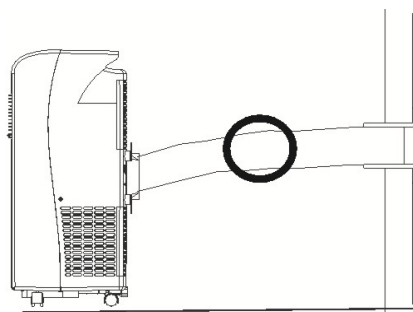

FIG.11
- Avoid kinks and bends in the exhaust hose as this will cause expelled moist air to build up causing the unit to overheat and shut down. Fig 11 & 12 show correct position.